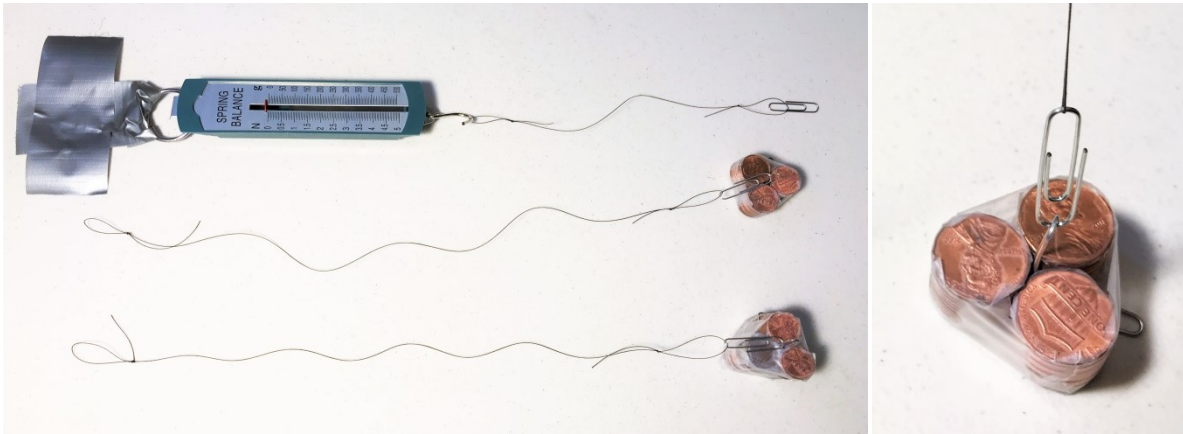

Fig. 8: Threads attached to spring balance and weights. Notice that the paper clip hook on the thread attaches to the paper clip loop on the pennies.
5. Connect the loop on the shorter thread (30 cm) to the spring balance hook and connect the paper clip hooks on the longer threads (50 cm) to the loops on the weights as shown in Fig. 8.